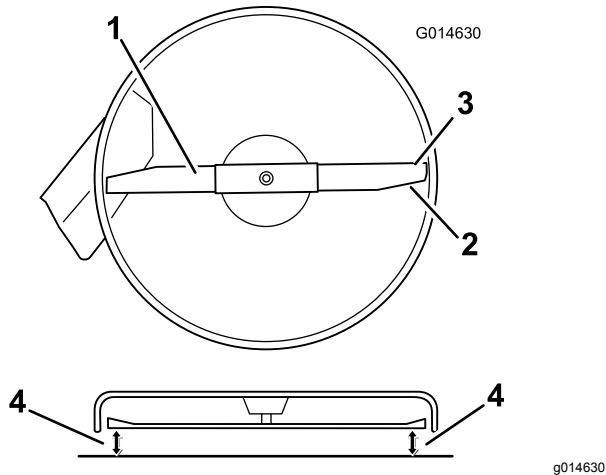
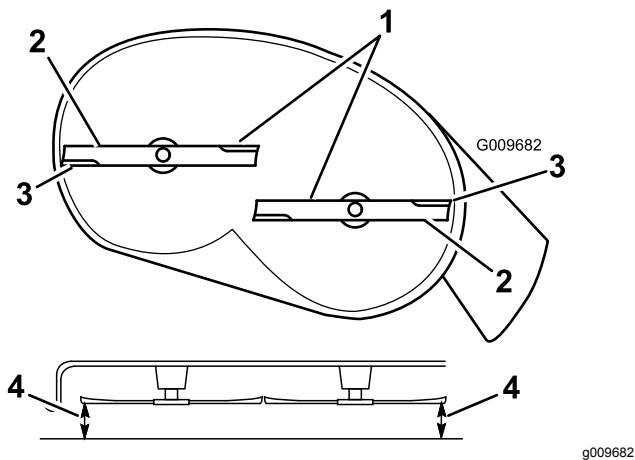

Figure 58
Figure 59
4. Carefully rotate the blade(s) so that they are all side to side (Figure 58 and Figure 59).
5. Measure between the outside cutting edges and the flat surface (Figure 58 and Figure 59).